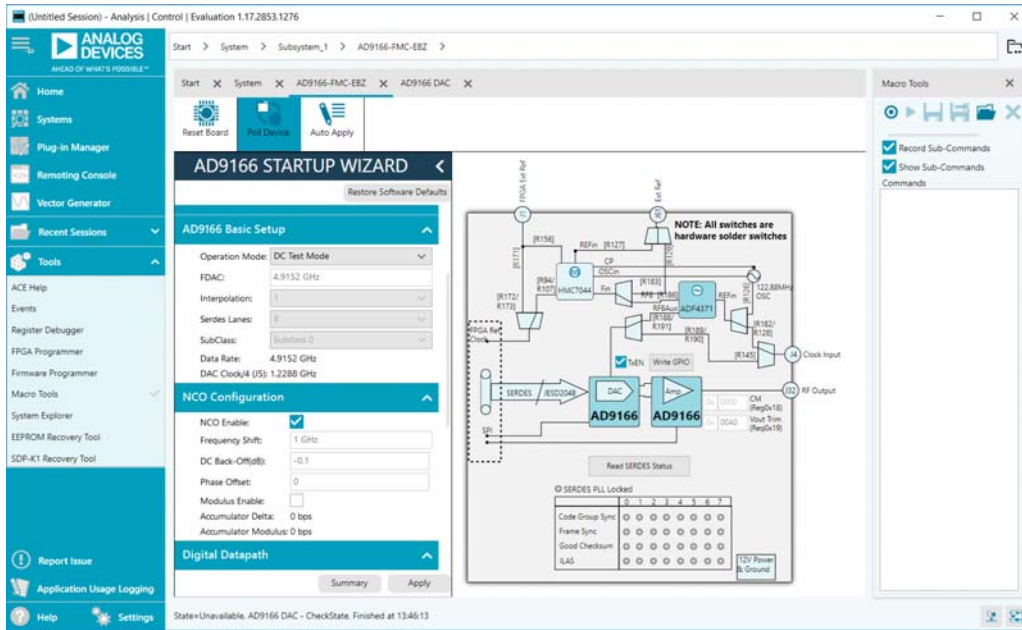

Figure 6. ACE—Initial Configuration
5. Using the **AD9166 STARTUP WIZARD** on the left side of the window, replace the default values shown in Figure 6 with the following: